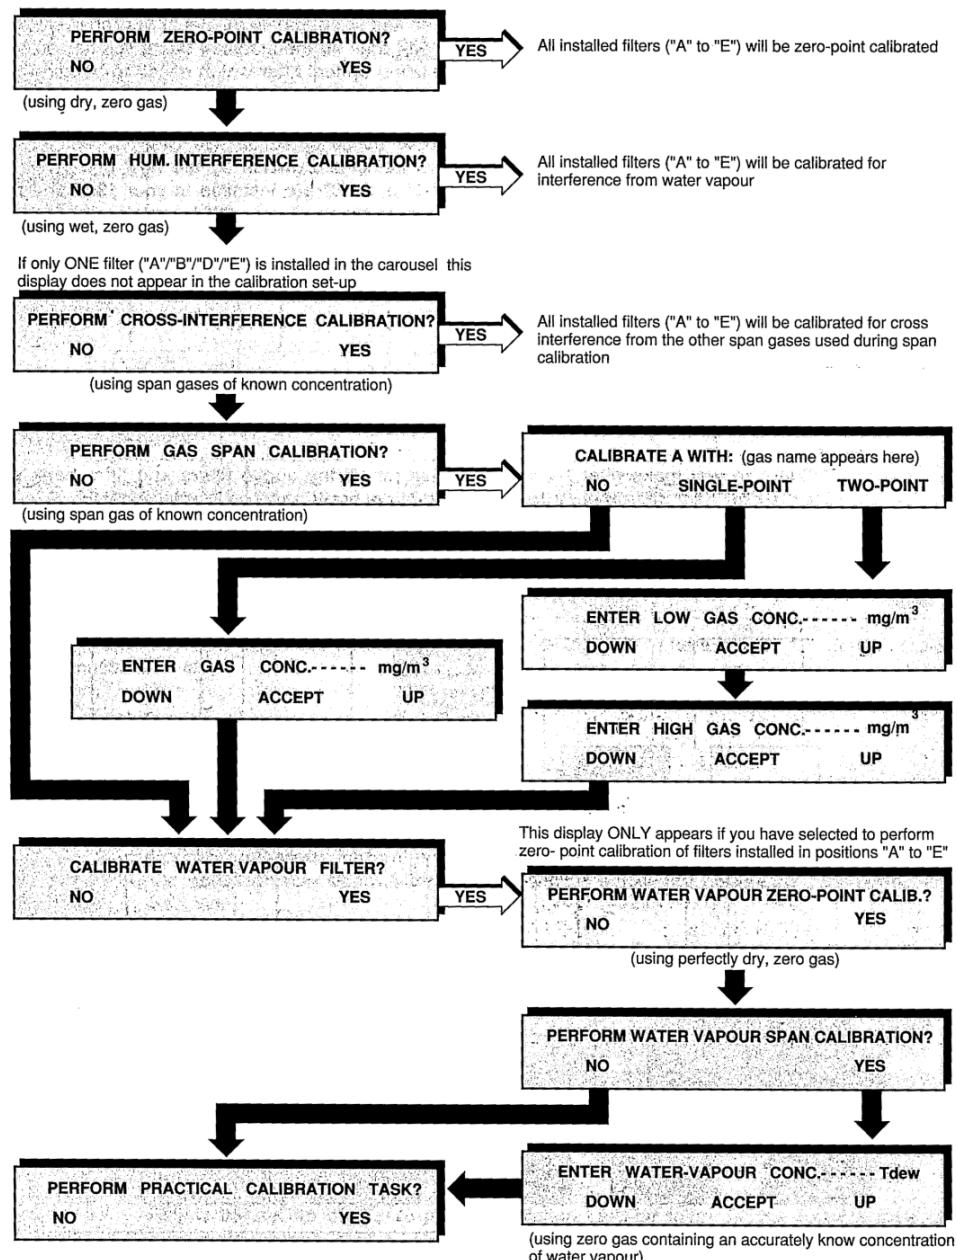
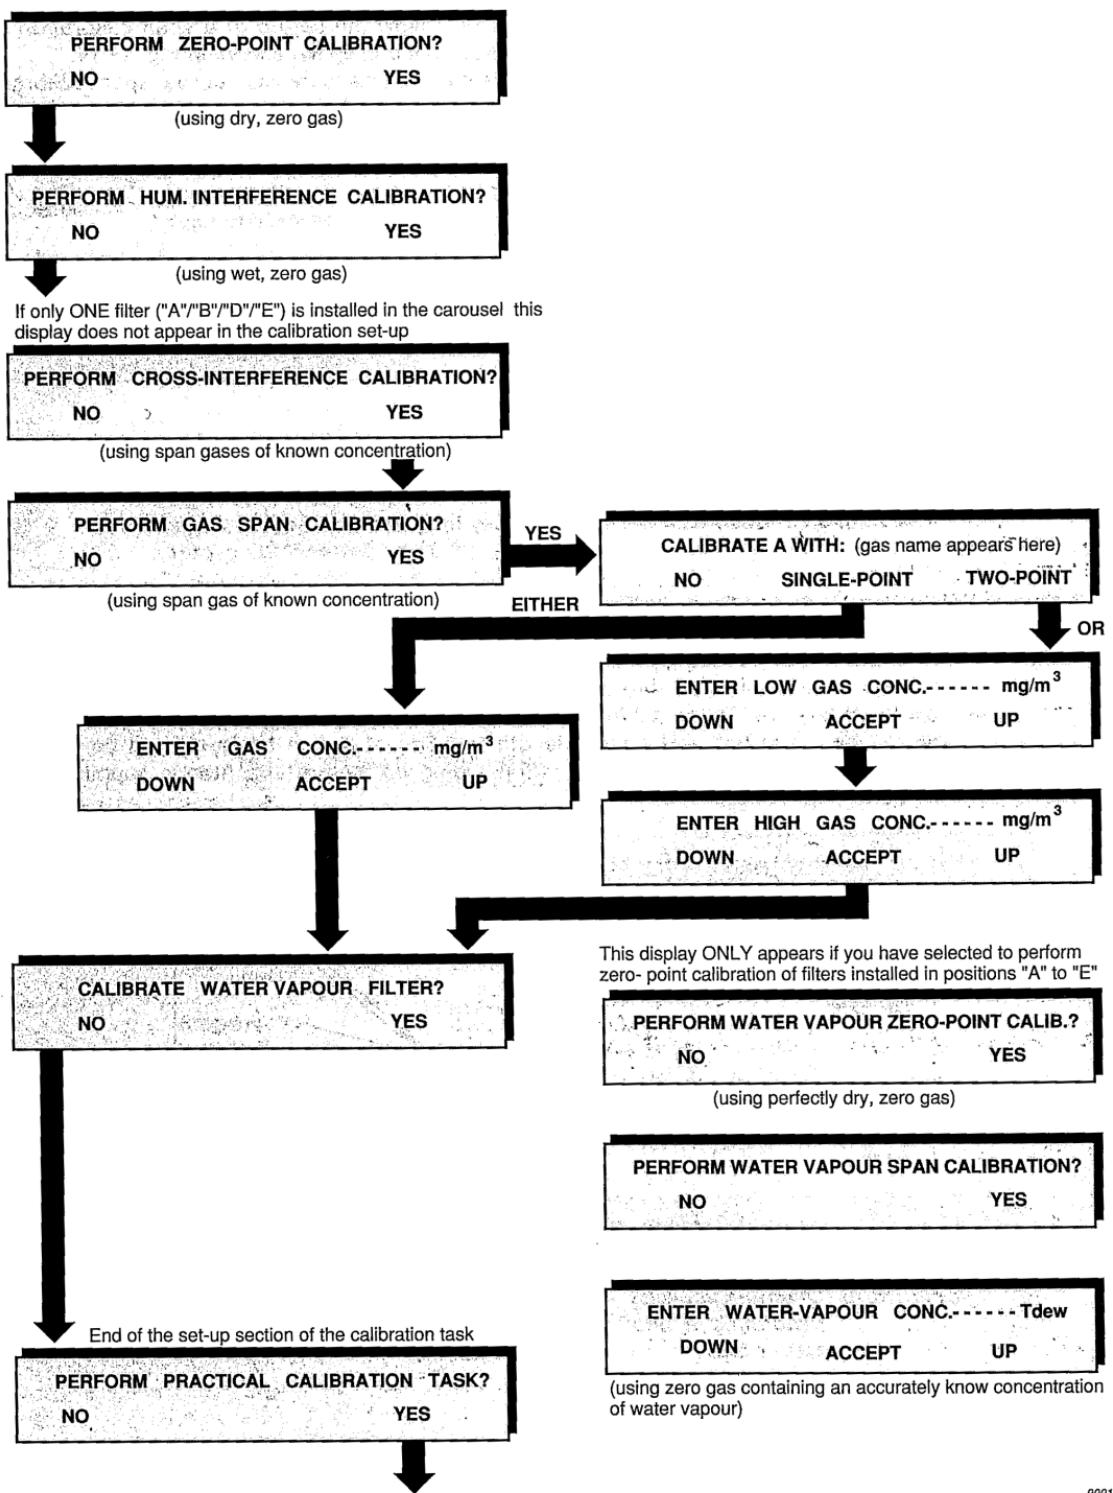

Figure 36. Schematic diagram showing the general calibration task Set-up “Tree”. (7)
Figure 37. Schematic diagram showing how to set-up a combined cross-interference and span calibration task. (7)
The description of different types of calibration tasks can be found in sections 4.3 *Zero point (N2)*, 4.4 *Humidity calibration (H₂O)* and 4.5 *Gas span calibration*. Here only practical information about setting-up different calibration tasks in *Brüel & Kjær 1302 Monitor* will be given. Below on Figure 36 can be found a general schematic diagram showing the calibration task Set-up “Tree”. When setting-up a calibration task in the Monitor you should follow the black arrows according to the type of calibration you want to perform. Exemplary schematic diagram showing how to set-up a combined cross-interference and span calibration task is shown on Figure 37. Additional schemes, if needed, can be found in *Instruction Manual (7)* in chapter 16 *Calibration of the optical filters*.